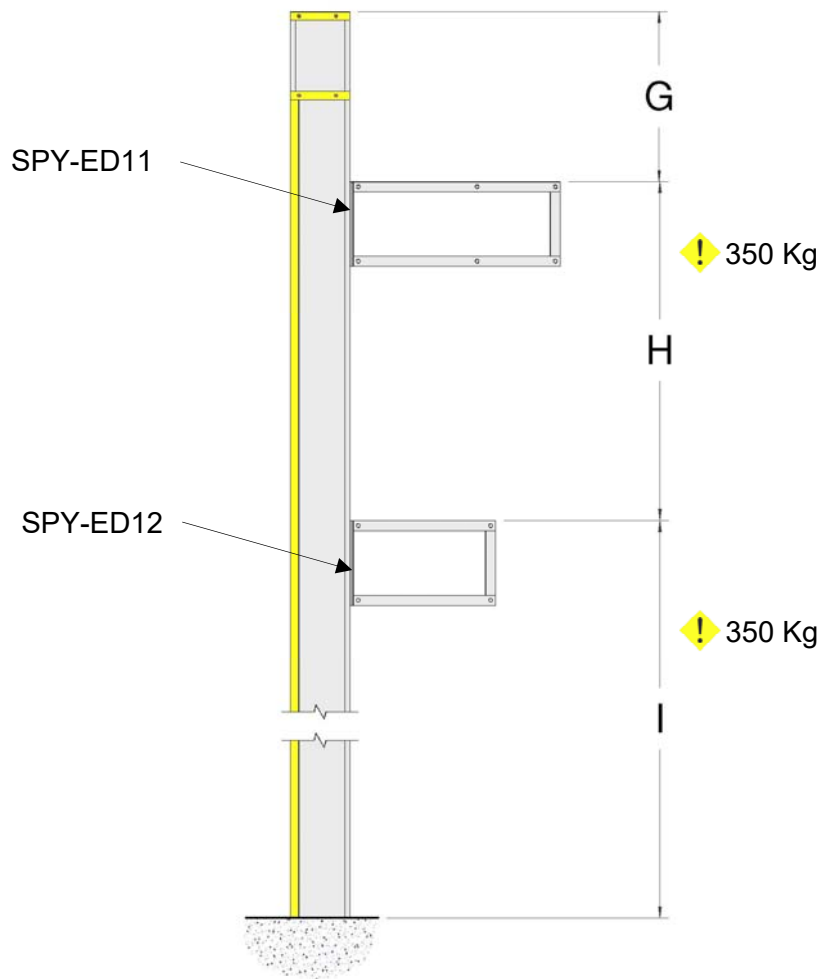
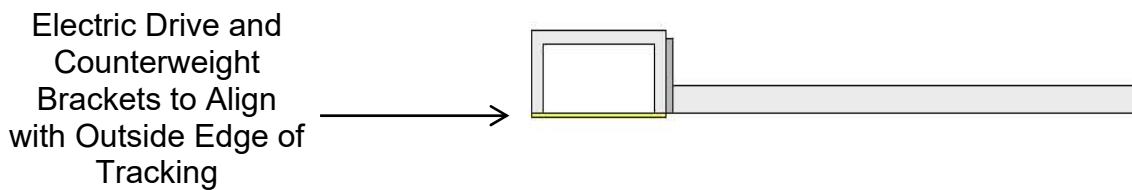

Figure 7a
Figure 7b
8. The brackets to support the Electric Drive and Counterweight Plates can be supplied by Galebreaker, see Figure 7a for the part number. Alternatively Point 9 details a suggested design for customer manufactured brackets. The mounting face of these brackets must align with the outside edge of the tracking (Figures 7b). Ensure the fixing surfaces are upright and can withstand the maximum door weight of 350Kg.